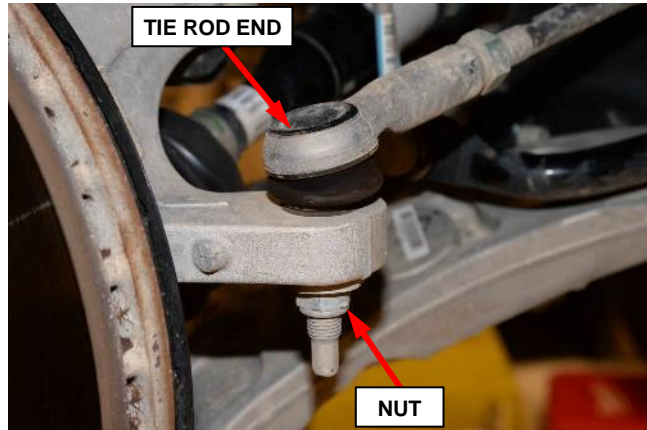

Figure 25 – Outer Tie Rod End
30. Remove and **DISCARD** the outer tie rod end nut (Figure 25).